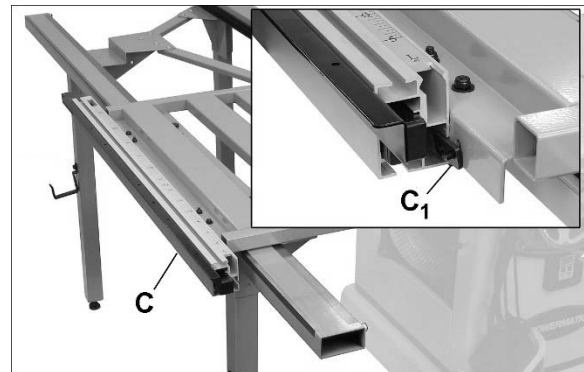
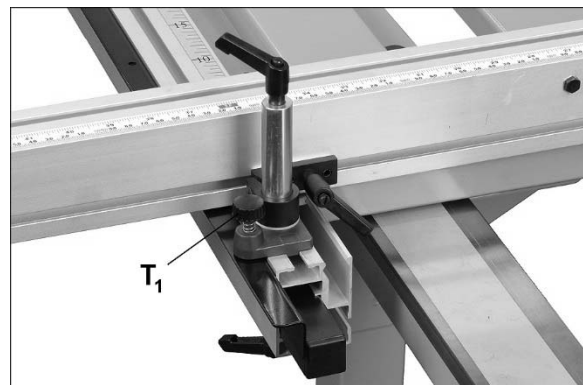

Figure 7-20
Figure 8-7
1. Slide angle adjusting rail (C, Figure 7-20) onto the two T-nuts (C_1).
- Loosen the two T-nuts on angle adjusting rail (see Figure 7-20), and slide angle adjusting rail while pushing down index pin (T₁, Figure 8-7) until first hole from the end engages index pin.